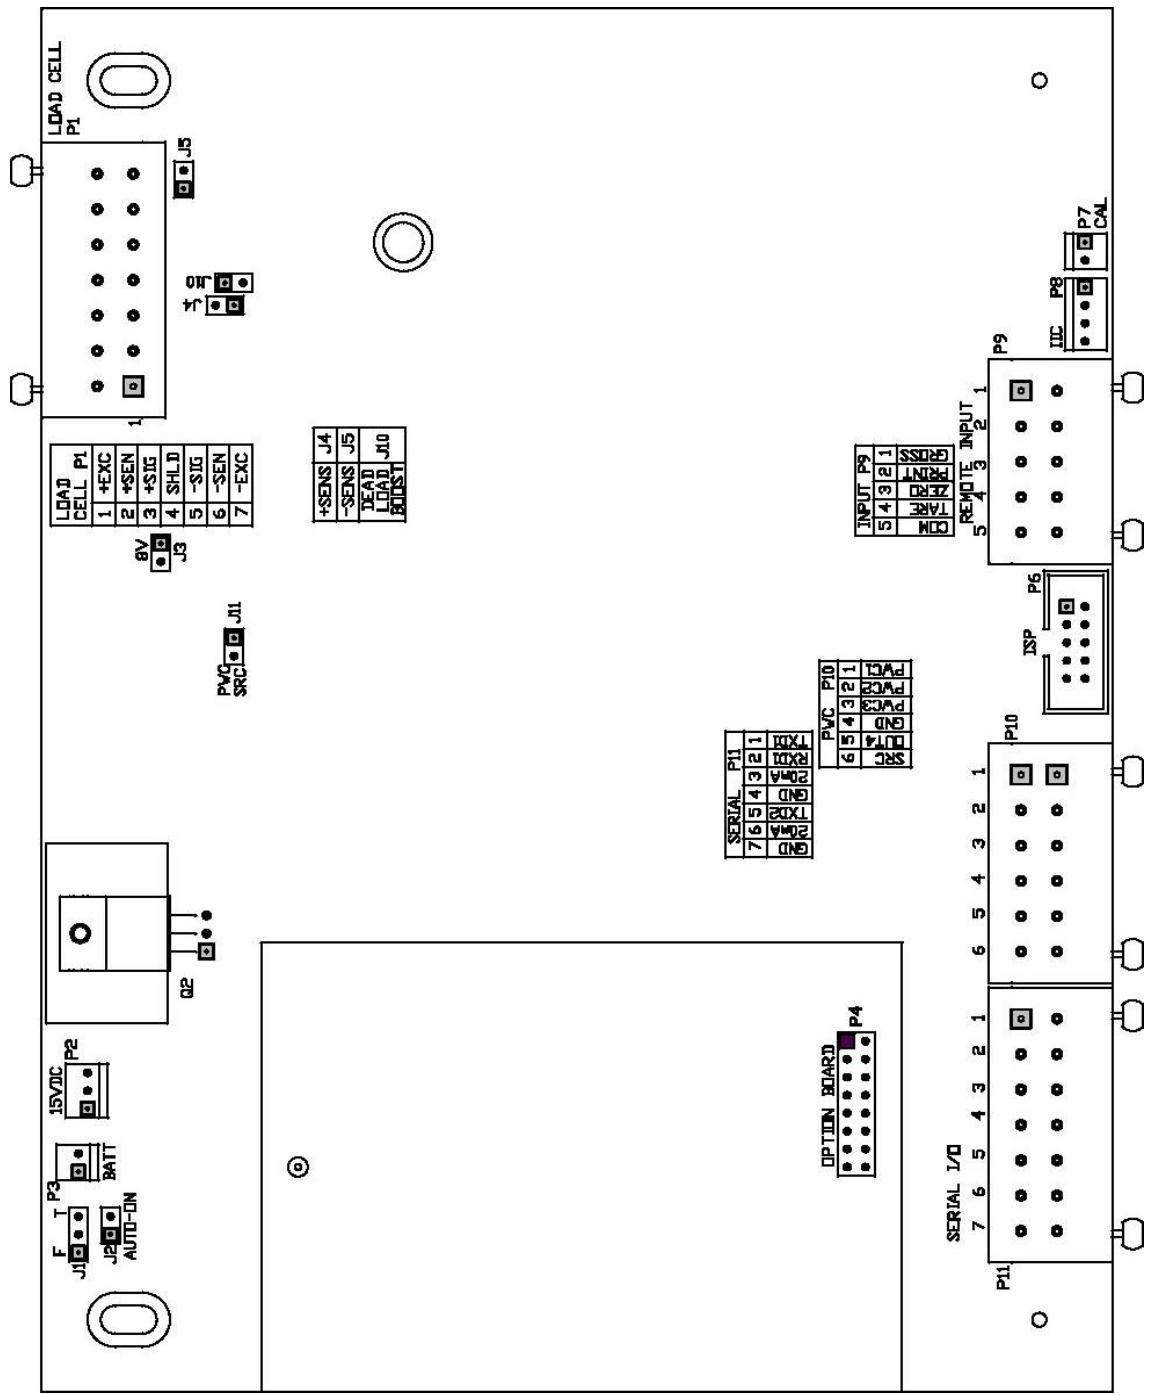

Figure No. 7
8. Connect each of the wires to terminal block P1 referring to labels on circuit board for terminal connections. Refer to Figure No. 7 for terminal block location.
4. Connect each of the wires to terminal block P1 referring to labels on circuit board for terminal connections. Refer to Figure No. 7 for terminal block location.
4. Connect each of the wires to the Serial Data terminal block (P11) referring to Figure No. 7 for terminal block locations.
Included with the I/O are 4 programmable inputs that may be used to remotely (up to 100 feet) initiate various functions within the indicator. These inputs are accessed via a terminal block (P9) on the back of the PC board (see Figure No. 7). The 4 inputs are defined as follows: